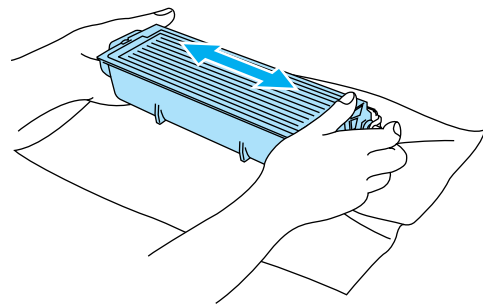

Fig. 5-10
- (3) Push down the blue lock lever and take the toner cartridge out of the drum unit assembly.
- (4) Unpack the new toner cartridge. Hold the cartridge level with both hands and gently rock it from side to side five or six times to spread the toner evenly inside the cartridge. (Fig.5-10)